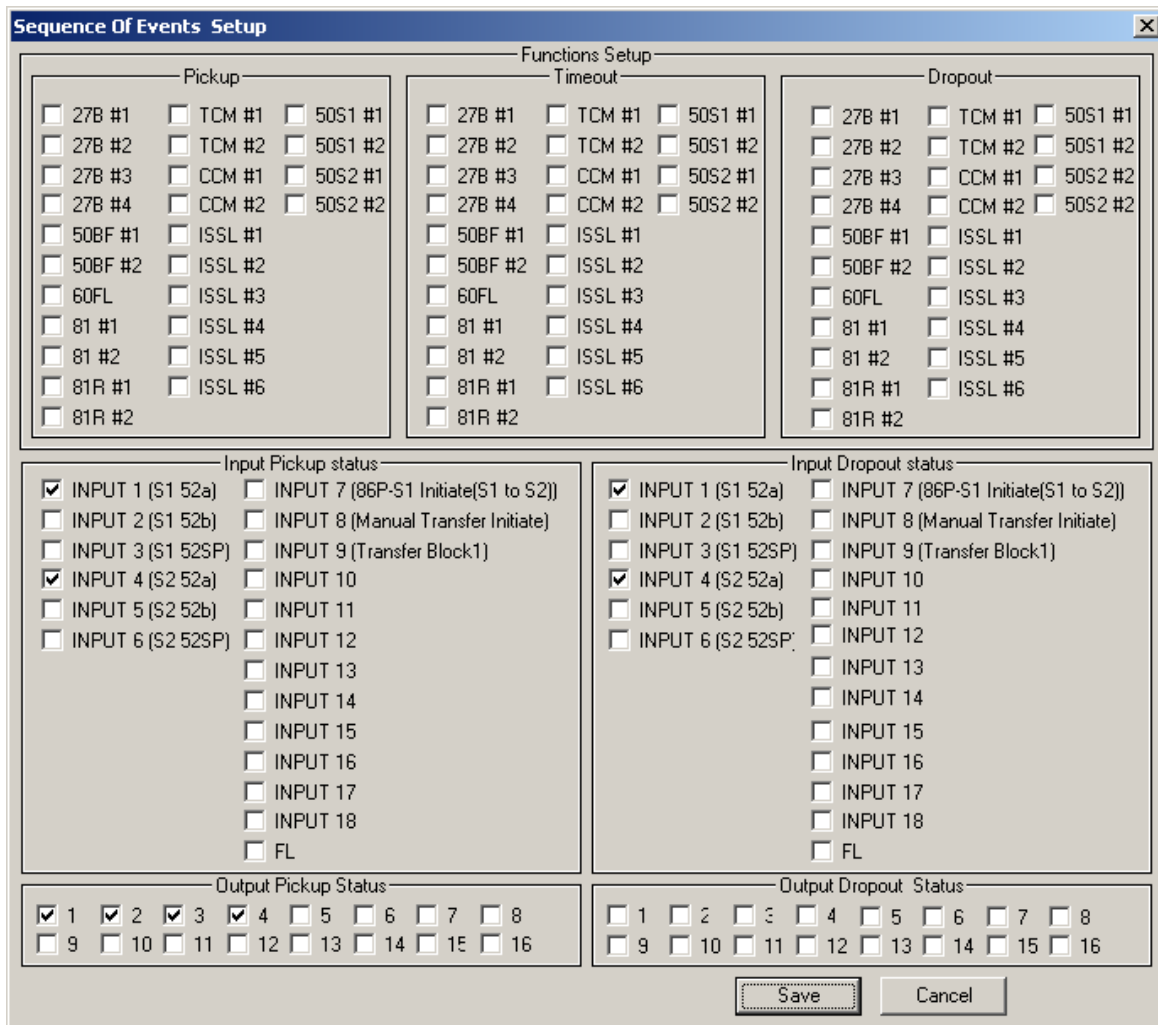

Figure 4-18 Sequence Of Events Setup
1. From the ISScom® Main Screen menu select **System/Sequence of Event Recorder/Setup**. ISScom will display the Sequence of Events Setup screen (Figure 4-18).